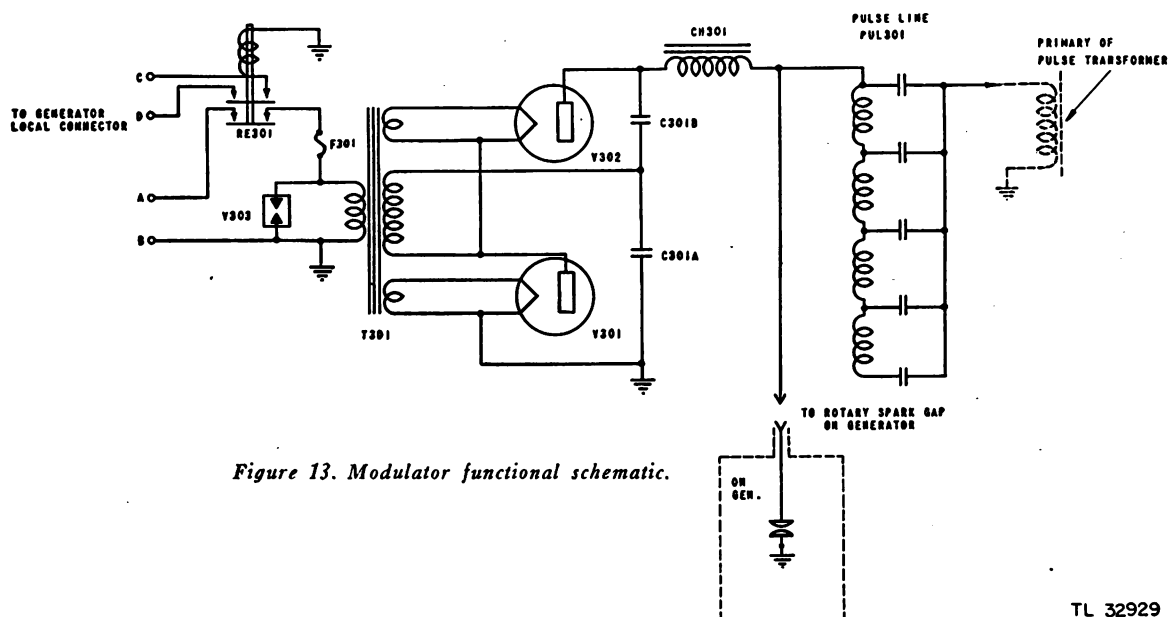

Figure 13. Modulator functional schematic.
- (1) Transmitting tube.
- (2) Transmission line, stub tuners, and stub supports.
- (3) T-R system.
- (4) Rotary joint.
- (5) Quarter-wave transformers.
- (6) Antenna.
b. Although the modulator (fig. 13) is not actually a part of the r-f system, it is described in this section because it is closely related to the operation of the transmitter. It consists of a voltage-doubler power supply, a d-c resonant charging circuit, and a pulse-forming line (network). A rotary spark gap on the generator shaft in the power unit completes the discharge path for the pulse forming line. An 8,000-volt, positive pulse is generated in the modulator and fed through a cable into the primary of the pulse transformer located in the console. The output of this 3 to 1 transformer is a 24,000-volt negative pulse which is fed to the cathode of the transmitting tube where radio frequency oscillations are set up.
near the motor generator, a rotary spark gap mounted on the end of the motor generator shaft, and a pulse transformer located in the main console. The metal modulator box is made up of two compartments, one of which is filled with oil. The oil compartment contains a high-voltage, 400-cycle transformer, several voltage doubling capacitors, a charging choke, and a pulse forming network. The other compartment contains the rectifier tubes and sockets, the relay, and a protective spark gap. Figure 13 shows a simplified diagram of the modulator and its associated high-voltage power supply.
c. *Power Supply.* (1) **SWITCHES.** To turn on the modulator, the modulator ON-OFF switch on the power unit must be thrown to the ON position. Two additional switches are located on the front panel of the receiver unit (fig. 19). Both switches must be turned to the ON position in order to generate the high-voltage pulse. These two, the **MAIN POWER SUPPLY** and the **TRANSMITTER** switches, when in the ON position, energize relay RE301, located in the modulator unit (fig. 13). This relay shorts out a compensating resistor located in the head of the generator. In this way, the voltage at the console remains constant and independent of the additional modulator load.
stationary pin, the voltage jumps the gap and allows a path for discharge of the pulse-forming line. The current flows from the line through the spark gap to ground and through the primary of the pulse transformer back to the pulse-forming line (fig. 13). This causes a positive voltage pulse across the pulse-transformer primary.